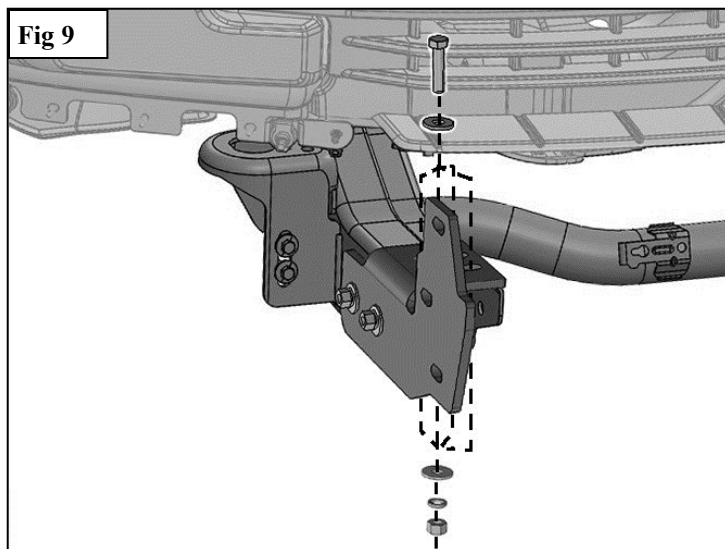

Fig 9
7. Attach the mounting tab on the top of the Bracket to the top of the frame with the included (4) M12 Hex Bolts (item 12), (8) M12 Flat Washers (item 13), (4) M12 Lock Washers (item 15) and (4) M12 Hex Nuts (item 14), (**Figure 9**). Do not fully tighten hardware at this time.